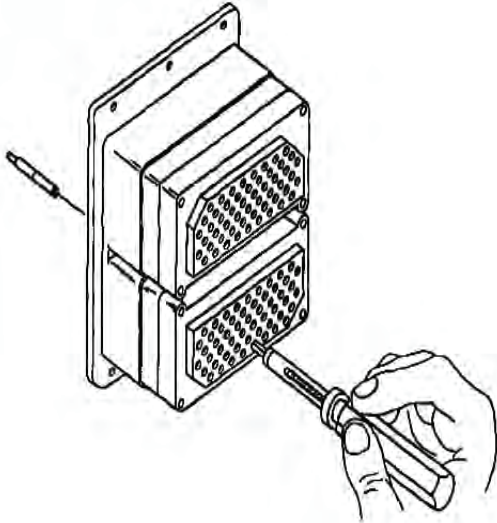

Figure 24. Broken Wire Contact Removal
h. Push contact completely out of rear of connector before disengaging removal tool (Figure 24).